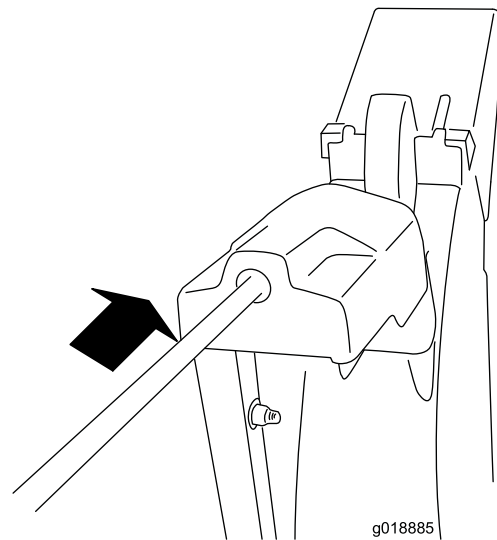

Figure 10
4. Insert the front end of the rod into the opening in the back of the chute gear cover until it slides into the chute gear (Figure 10).